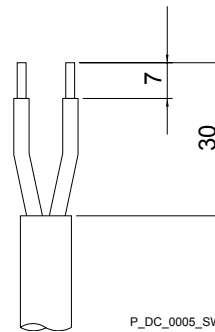

Fig. 12: Removing the wiring insulation
1. ➤ Remove the cable insulation according to Fig. 12 and crimp on the corresponding cable end sleeves.